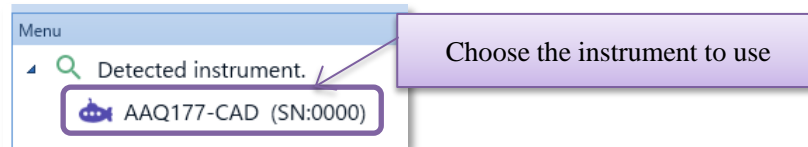

Figure 6.4 Choose at “Instrument Menu”
- (1) Launch the software and search the instrument.
- (2) Choose the instrument from displayed “instrument menu”. (Figure 6.4)